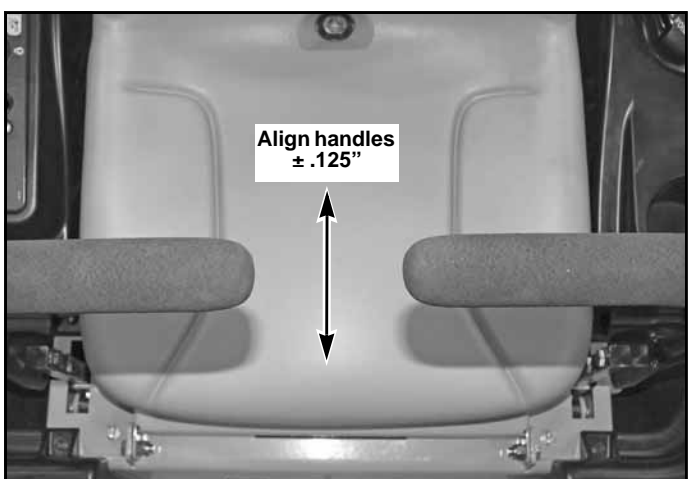

Figure 4-5
9. The steering control levers should be adjusted so that they align vertically with each other when in the neutral position (Figure 4-5). Space between ends of steering control handles to be $.50'' \pm .25''$. Figure 4-5